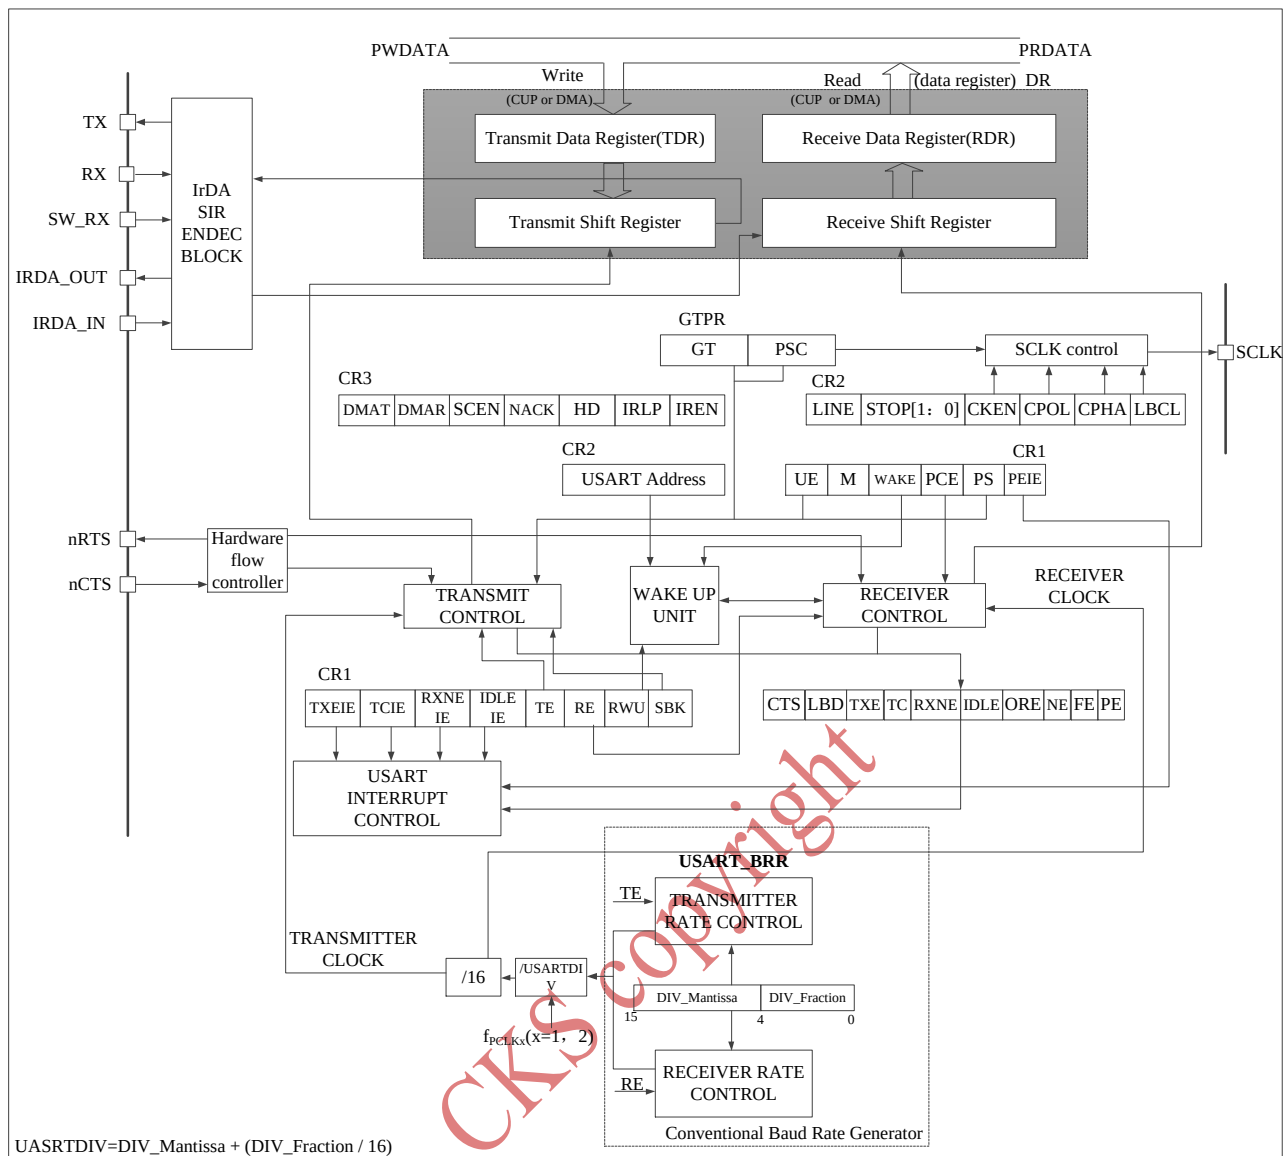

Figure 171 USART block diagram
The interface is externally connected to another device by three pins (see Figure 171). Any USART bidirectional communication requires a minimum of two pins: Receive Data In (RX) and Transmit Data Out (TX):